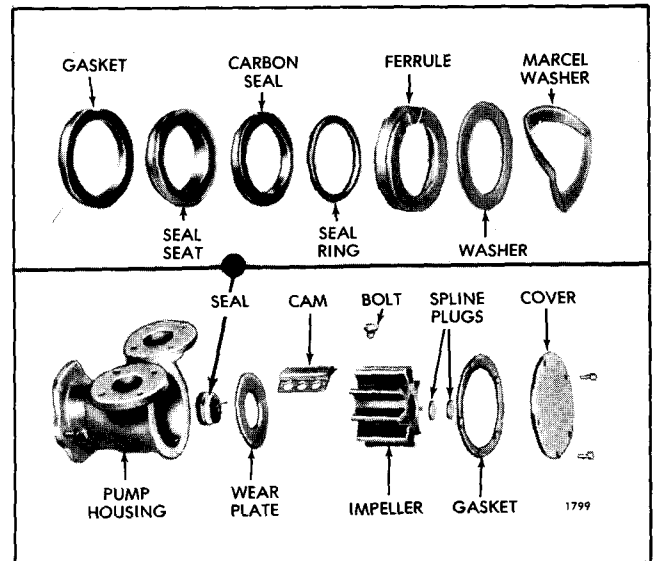

Fig. 17 - Raw Water Pump Details and Relative Location of Parts
The impeller (Fig. 17) is self-lubricated by the water pumped and should be primed before starting the engine.
1. Remove the cover screws and lift the cover and gasket from the housing (Fig. 17). Note the position of the impeller blades to facilitate reassembly.